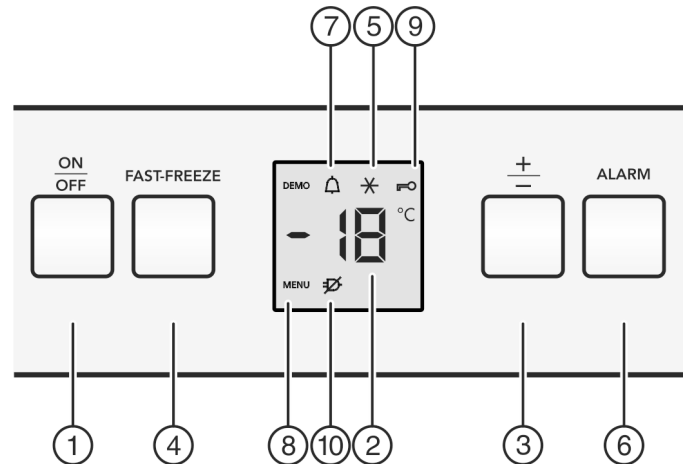

Fig. 2
- ▶ Press the On/Off button Fig. 2 (1).
- ▷ The appliance is switched on. The temperature display and Alarm symbol Fig. 2 (7) flash until the temperature is cold enough.
- ▶ Press the Fast-Freeze button Fig. 2 (4) for approx. 5 seconds.
▷ The menu symbol *Fig. 2 (8)* is indicated in the display.
▶ Briefly confirm using the Fast-Freeze button *Fig. 2 (4)*.
▷ The child lock symbol *Fig. 2 (9)* illuminates in the display.
▶ Briefly press the ON/OFF button *Fig. 2 (1)*.
▶ Press alarm button *Fig. 2 (6)*.
The temperature display and the alarm symbol *Fig. 2 (7)* flash at the same time.
The audible alarm is automatically silenced, the alarm symbol *Fig. 2 (7)* goes out and the temperature display stops flashing when the temperature is sufficiently cold again.